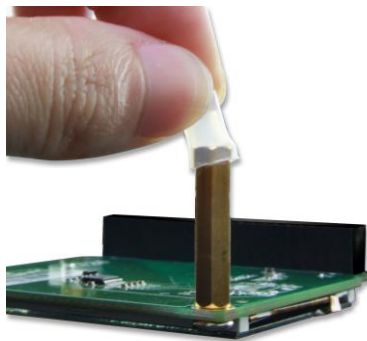

Figure 1-3 Install the footstand
2. Cover the two copper pillars of LT24 with two silicon footstands, as shown in **Figure 1-3**. This procedure can be skipped if the LT24 is assembled with DE0-Nano.